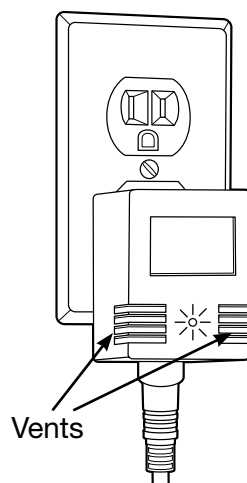

Fig. 4
9. Plug ballast into a standard 120V 50/60Hz outlet. Turn lamp on. The green LED indicator on center of the ballast should be illuminated (Fig. 4). If the LED indicator does not illuminate, please refer to the troubleshooting section of this manual (see page 9).